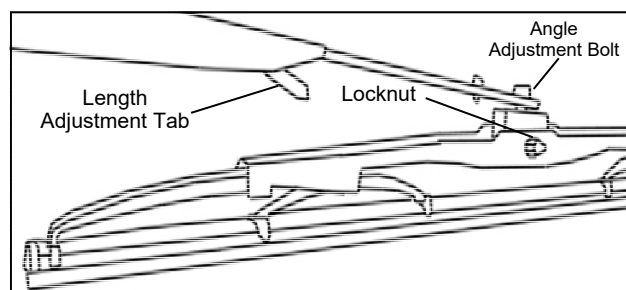

Figure 14.5: Wiper arm
- 14.5 Remove screw and locknut from wiper arm, and insert screw through upper mounting hole in wiper blade, and wiper arm hole. **(Figure 14.5)** Secure with the locknut. Adjust the arm length to maximum extension.